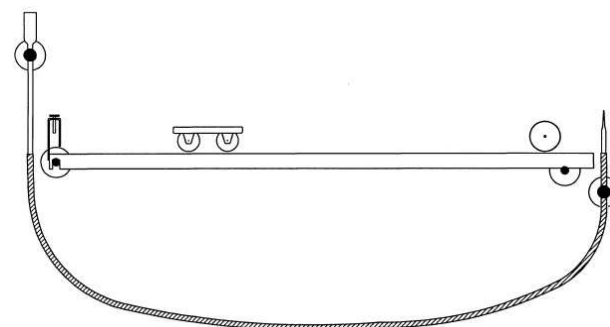

Fig. 2
- Clamp the water-level at the ends of the track (Fig. 2).